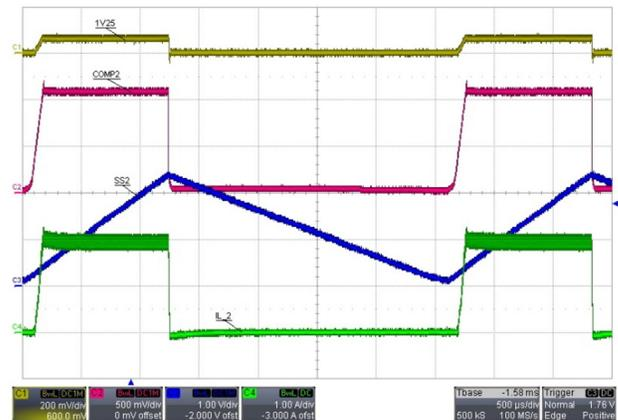

Figure 9: Synchronous Buck Hiccup Mode Operation when 1V25 is Shorted to GND and C_{SS2} = 10 nF
5. Hiccup short-circuit protection; lab measurement shown in Figure 9 and detailed timing diagram shown in Figure 23